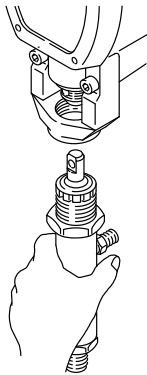

Fig. 36
NOTE: Some parts in Figures 36 to 40 may look somewhat different than your sprayer.
1. Screw the displacement pump into the bearing housing (27) until the pin holes align. See Fig. 36.